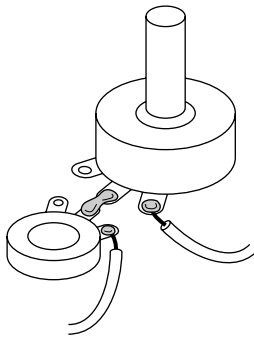

FIGURE 9-23: Solder the pots’ middle terminals together and solder a wire to an outside lug of each, as shown.
1. Solder a trimmer of the same value (1M) to the full-sized 1M pot, center lug to center lug, and solder a wire to an outside lug of each pot (see Figure 9-23).